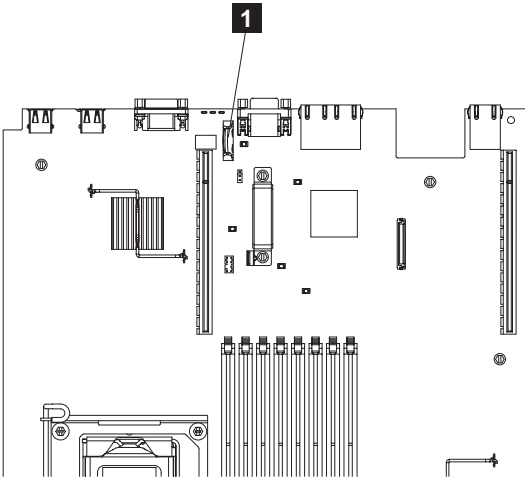

Figure 137. Location of the SAN Volume Controller 2145-CG8 or 2145-CF8 CMOS battery holder
2. Locate the battery on the system board. Figure 137 shows the location (**1**) of the battery on the system board.